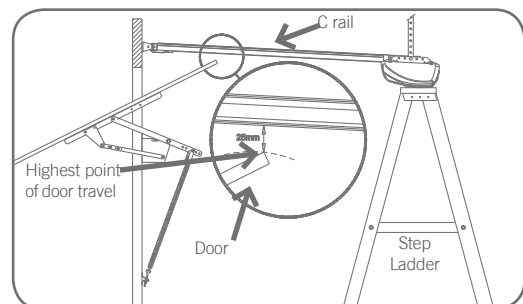

Fig. 16
- Stop the door when it is at its highest point of travel. Allow 25mm additional height for clearance between the door and the track (**Fig. 16**).